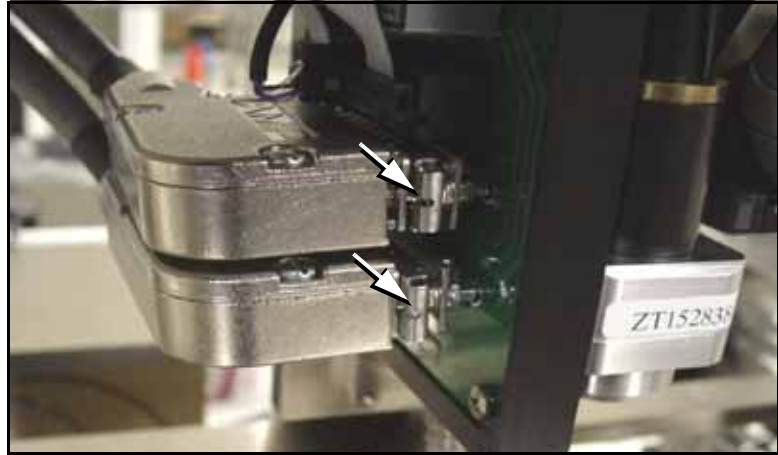

Figure 4-21: PNP head sliding retaining clips.
- 1b. Check the retaining clips on the two DB25 connectors plugged into the PNP head. They slide back (away from the operator) to release. Make sure they are slid forward. See Figure 4-21.